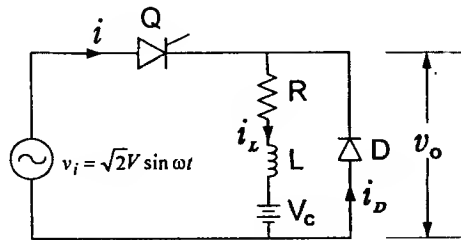

Figure 1: A Half-wave rectifier.
1. A half-wave controlled rectifier with a free-wheeling diode is shown in Figure 1. The thyristor, Q is fired at  $\alpha = 40^\circ$  during each cycle. The rms value of the source voltage is 120 V. Consider  $V_C = 48$  V,  $L = 10$  mH and  $R = 1.8 \Omega$ .